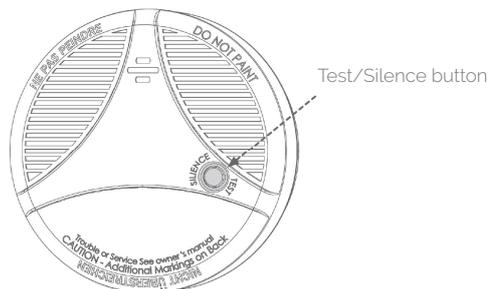

Figure 10: Test/Silence button location
1. Push the Test/Silence button, shown in Figure 10, rapidly five times. The Smoke/CO detector will sound a siren beep on each press.